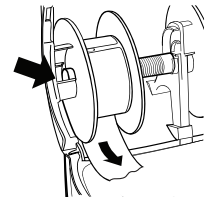

Figure 7
- Insert the label spool into the left slot in the printer cover with the labels extending from underneath the roll. See Figure 7.